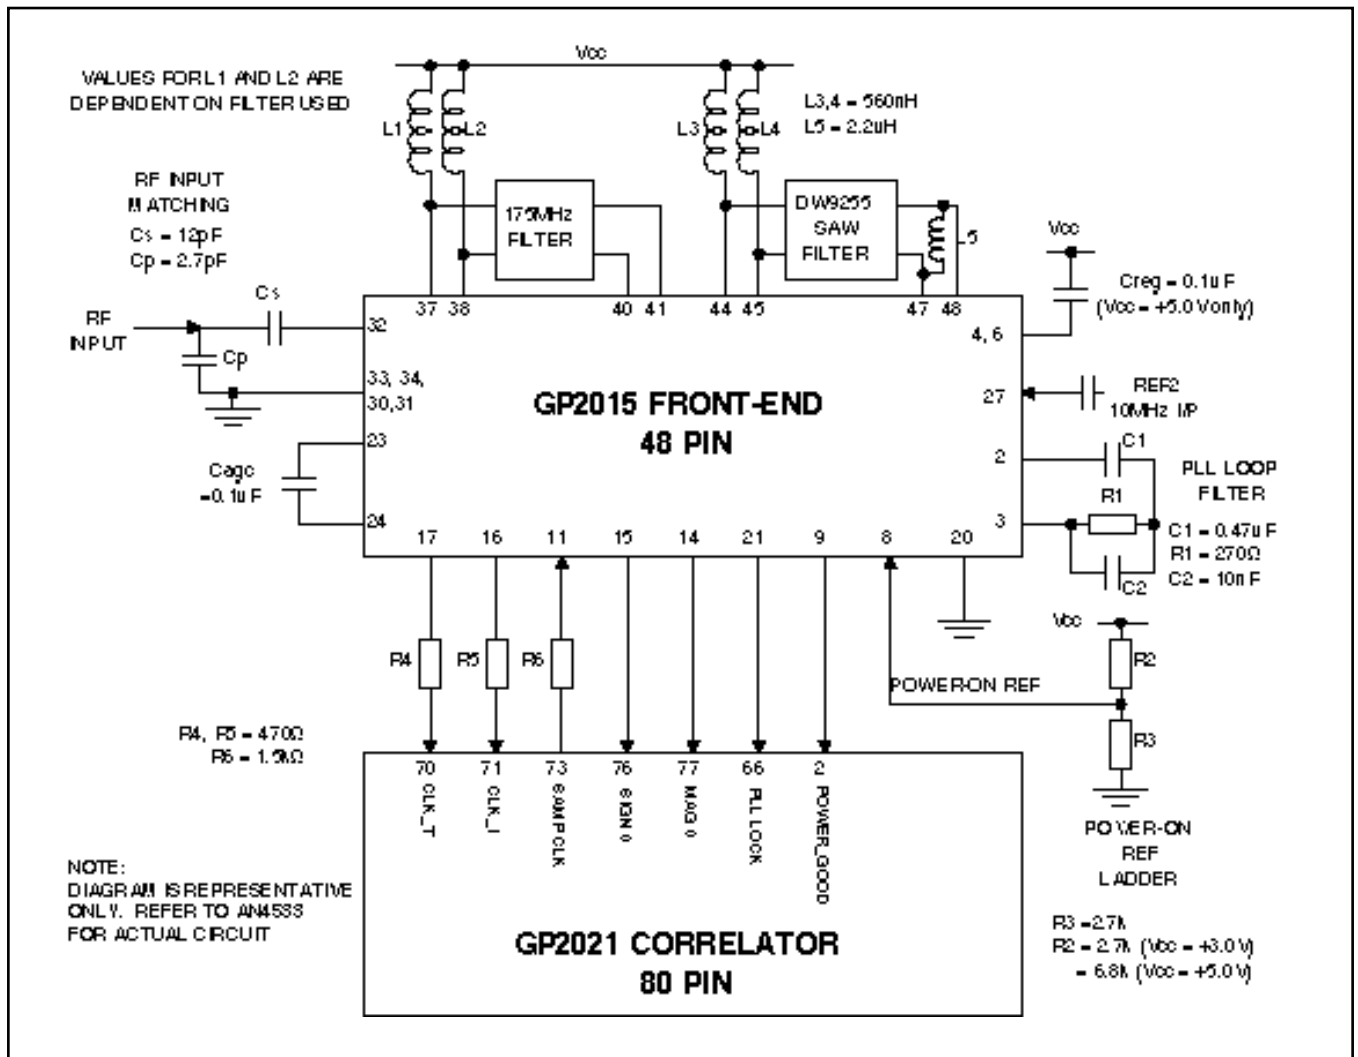

Fig. 4 GP2015 typical application
A typical application circuit is shown in figure 4 with the GP2015 front-end interfaced to the GP2021 12-channel correlator integrated circuit. The RF input has an unmatched input impedance (see page 4). The RF input matching components  $C_s$  and  $C_p$  should be mounted as close to the RF input as possible: also the Vee(RF) tracks must be kept as short as possible. A SAW filter may be used as a 175.42MHz filter, but this can be replaced by a simpler coupled-tuned LC filter if there is no critical out-of-band jamming immunity requirement. The DC bias to mixer 1 is provided via inductors L1 and L2, which may form part of the 175.42MHz filter. The output of mixer 2 requires an external dc bias, achieved with inductors L3 and L4, which also serve to tune out the input capacitance of the DW9255 SAW filter. The output of the SAW filter is tuned with inductor L5. Capacitor ( $C_{agc}$ ) determines the AGC time-constant. The PLL loop filter components are selected to give a PLL loop bandwidth of approximately 10kHz. The IF Output is normally used for test-purposes only, but is available to the user if required. Typically a low noise preamplifier (gain  $> +15dB$ ) is used between the